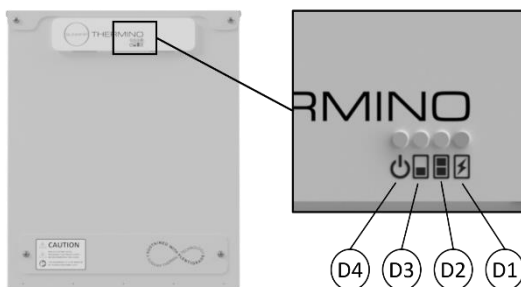

Figure 12 – Thermino xPlus Heat Battery LED operation
6. Check the front of the Heat Battery to ensure that the "power" LED is lit (see Figure 12 & Table 9).